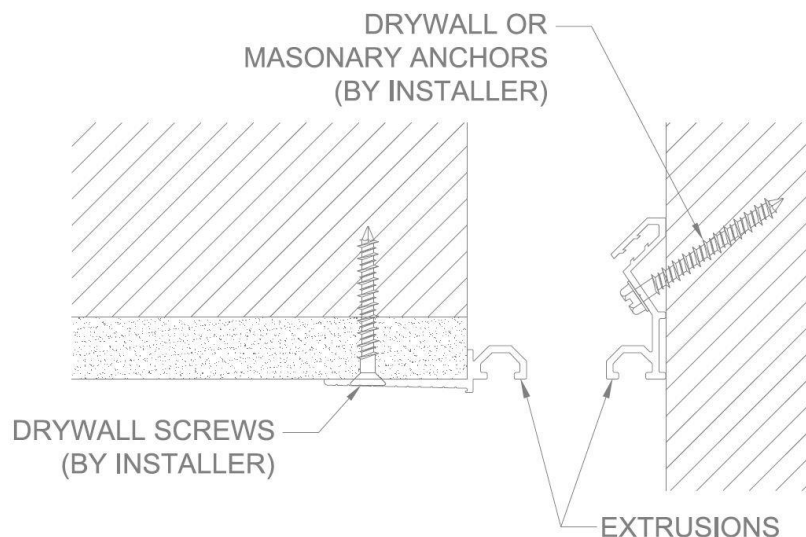

FIGURE 4
1. Position base member frame in expansion joint per shop drawings. Attach with screws (by installer) through the gypsum wallboard and into the structural support. Position the wall frame into position, making sure the top channel is level with the top channel of the base frame. Attach the wall frame to the wall with appropriate fasteners (by installer) for the wall type at 18" O.C. See **Figure 4**.